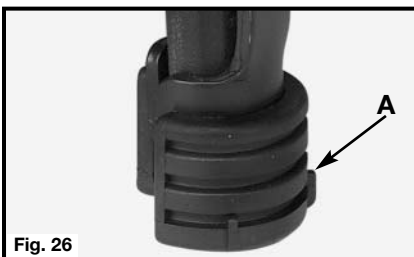

Fig. 26
A rubber nose cushion (A) Fig. 26 is provided to reduce marring of the work surface. The rubber cushion can be removed, and stored inside knob (B) Fig. 27, to provide increased depth-of-drive for toe-nailing applications.